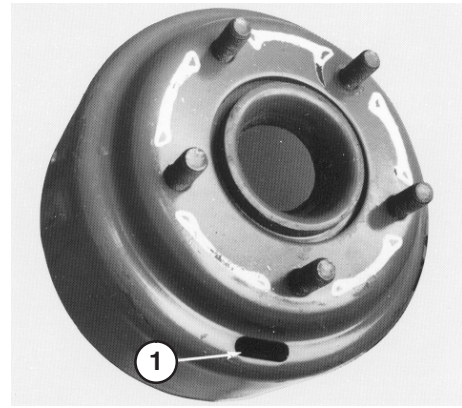
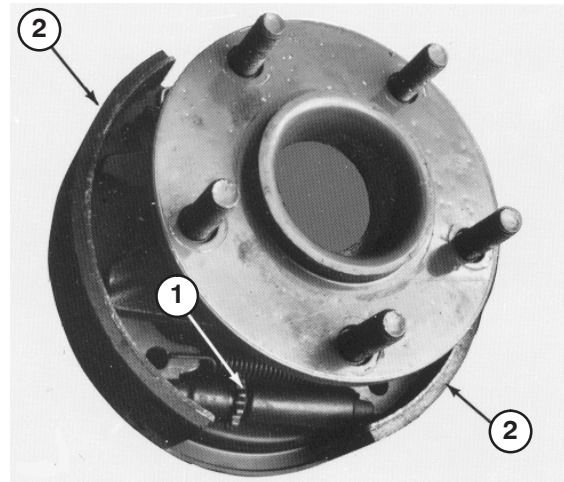

Figure 70
Figure 71
5. Remove wheel nuts and slide wheel and tire assembly off studs. Rotate brake drum until adjusting slot is at bottom and centered over star nut that adjusts brake shoes (Fig. 70).
6. Using a brake adjusting tool or screwdriver, rotate star nut (Fig. 70) down until brake drum (Fig. 71) locks because of outward pressure of brake shoes (Fig. 71).